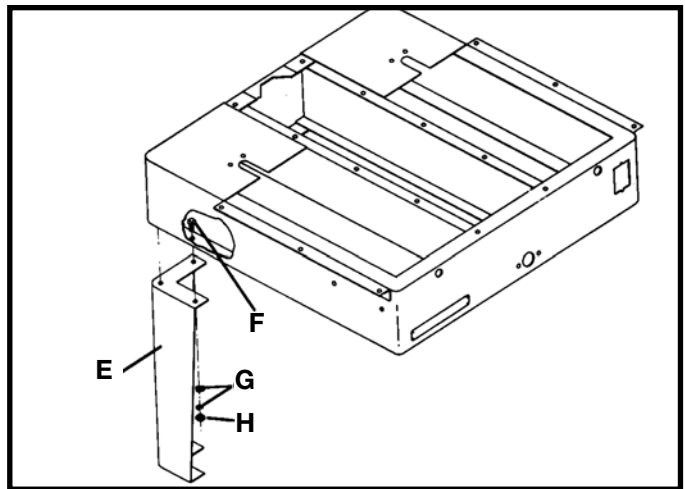
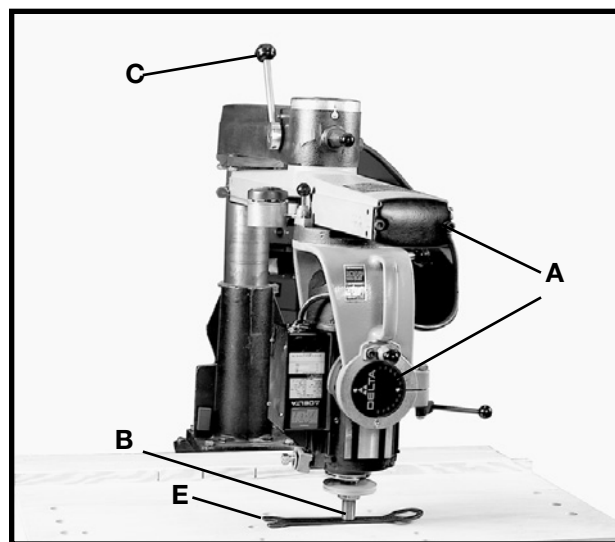
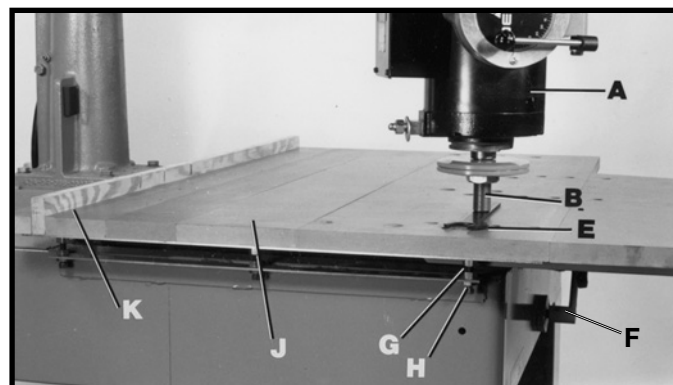

Fig. 5
Fig. 18
Fig. 19
1. Move the motor and cuttinghead assembly (A) to the vertical position (Fig. 18). Position saw arbor (B) Fig. 18, so that it is approximately in the center of the front table board. Push track-arm clamp handle (C) Fig. 18 to the rear to secure track-arm and tighten cuttinghead clamp knob (G) Fig. 5.
Using the spanner wrench (E) Fig. 18 as a feeler gauge, raise or lower track-arm by turning elevating handle (F) Fig. 19 until saw arbor (B) just touches wrench (E). **DO NOT RAISE OR LOWER TRACK-ARM ANY FURTHER UNTIL LEVELING ADJUSTMENT IS COMPLETED.**
2. Move cuttinghead (A) so that the saw arbor (B) Fig. 19 is at the left front table, as shown. Make sure track-arm clamp lever and cuttinghead lock knob are tight. Using the spanner wrench (E) Fig. 19 as a feeler gauge check to see if an adjustment is necessary. To lower the table, loosen nut (G) and tighten nut (H) Fig. 19. To raise the table, reverse this adjustment. Check table at points (J) and (K) and adjust if necessary. Check table on right side in the same manner.